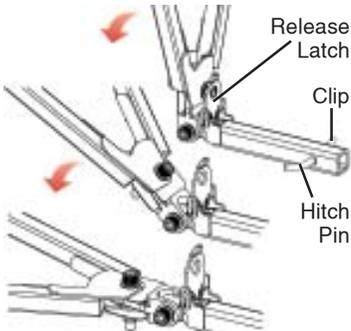

Figure 3
folded position (Fig. 1), insert it into the motorhome's hitch receiver, and secure it with the Hitch Pin and Clip (Fig. 3).
5. Push the release latch (Fig. 3) forward, to bring both arms down to a horizontal position. Standing to one side, swing both arms away from you, aligning the outermost arm with the tabs on the quick-disconnect base (Fig. 4). Using the included Base Pin (Fig. 4), attach the arm and secure it with a linch pin or optional padlock. Now, swing the other arm to the opposite side and connect it in the same manner.